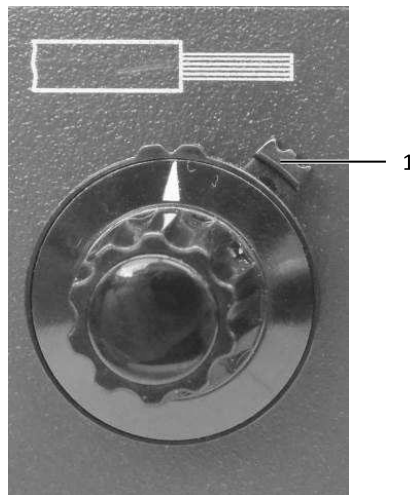

Fig. 3: Brake at the setting button
- Release the brake (fig. 3, item 1) of the setting button by turning it counter-clockwise.